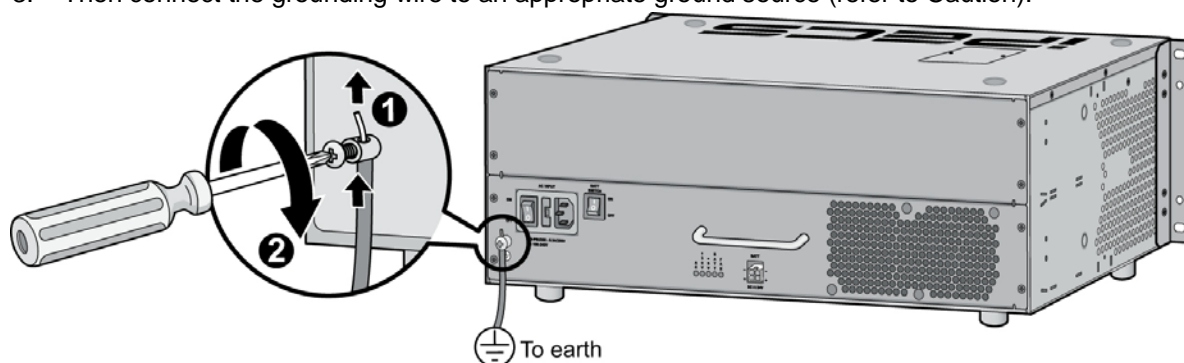

Figure 2.3 Grounding the KSU
1. Turn the grounding screw counter clockwise to loosen, as shown in Figure 2.3.